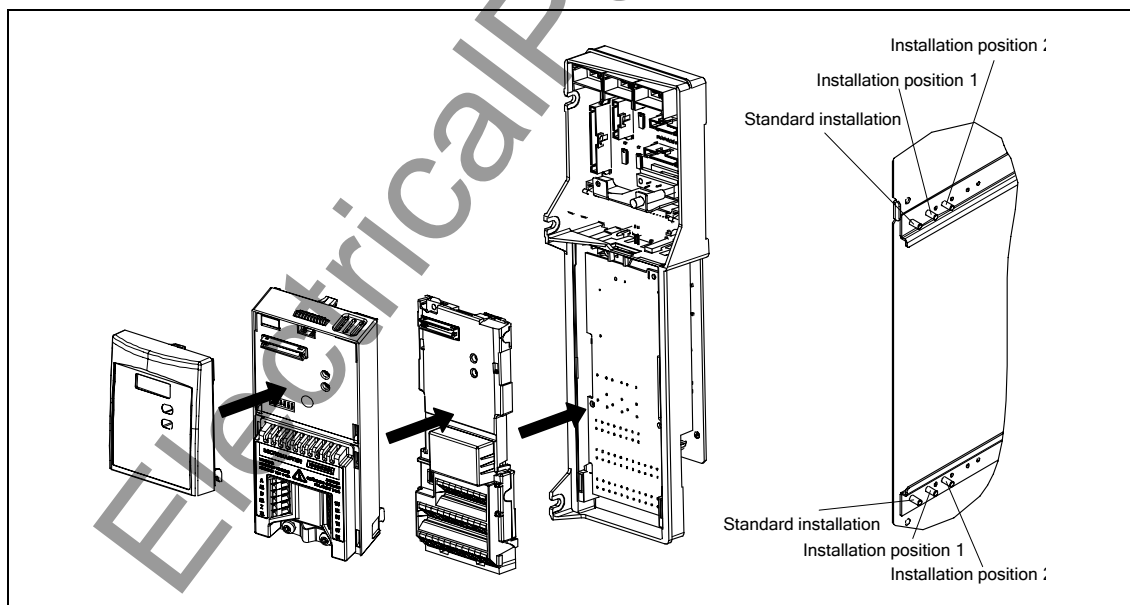

Figure 2-7. Installation of options for the electronic box
- Screw on electronic box in correct installation position as shown in Figure 2-7